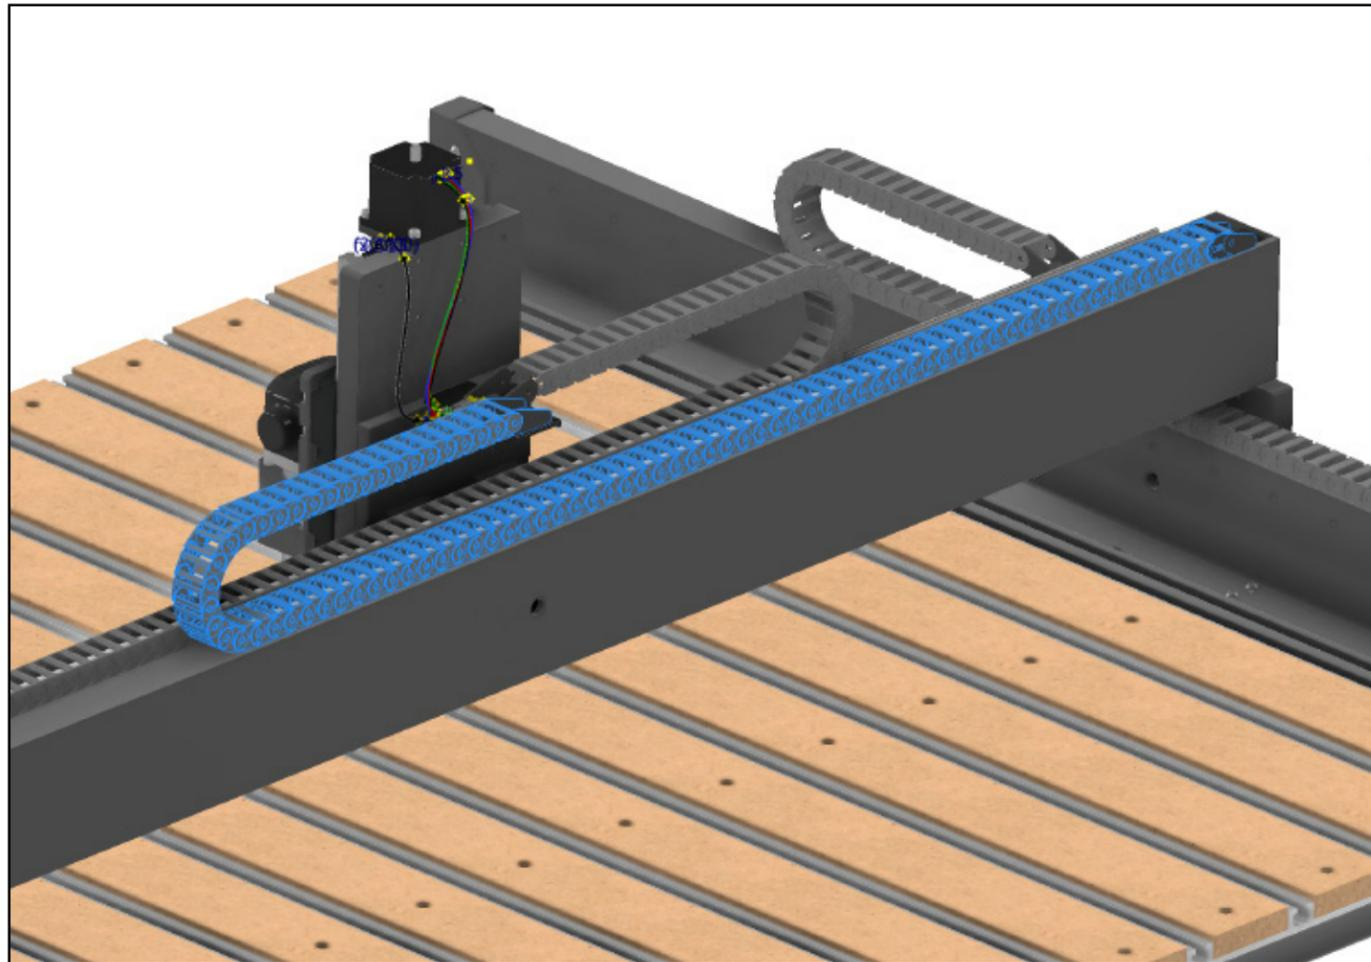

Figure 5-2
3. Lift the X-Axis (longer) drag chain over the HDZ and set it on top of the gantry. See Fig. 5-2.